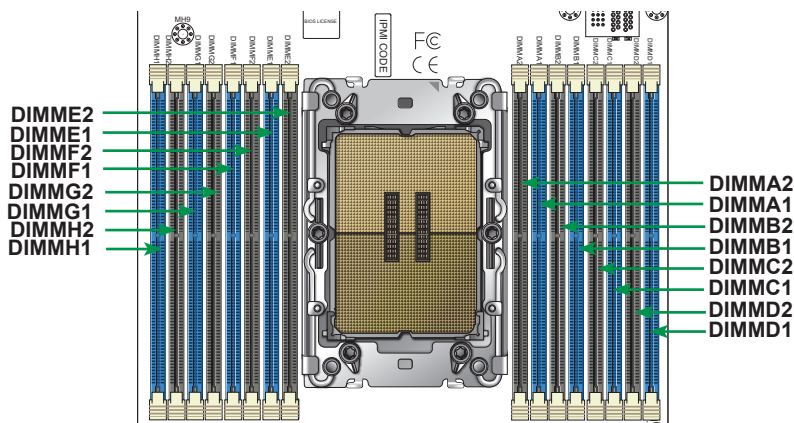

Figure 3-4. Memory Slots
- **BMC > Server Health > NVMe SSD** – Shows the temperatures of all NVMe drives, as in Figure 3-4.